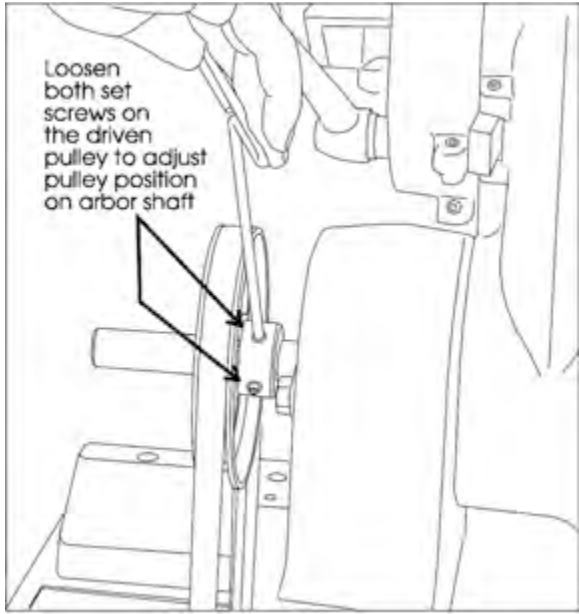

Figure 22: Loosening pulley set screws to allow the adjustment of pulley on arbor shaft
18. Observe the alignment of the motor pulley and arbor pulley. If necessary, correct their alignment by shifting the motor slightly on its mount (which involves loosening and retightening the mounting bolts and checking tension) or by shifting the pulley slightly on the motor shaft (which involves loosening the motor pulley set screw and sliding the pulley into alignment) or by moving the arbor pulley slightly on its shaft (See Figure 22).